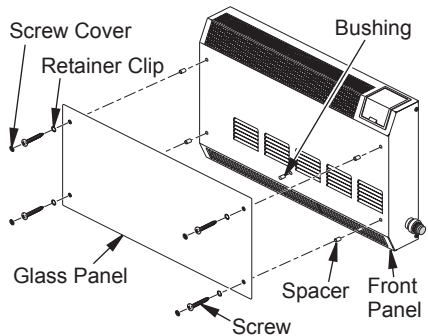

**Figure 4 - Removing Front Panel Of Heater**
1. Remove and discard shipping screw from back panel of heater (see Figure 4).
- For both ignitors, install ignitor wire only when replacing front panel of heater after connecting to gas supply and checking gas connections (see pages 11 through 13). With bottom of front panel only 2" to 3" (5 to 7.6 cm) away from back panel, reach into lower right corner of heater to connect ignitor wire to ignitor terminal (see Figure 4, page 8).